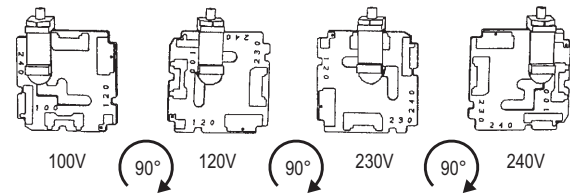

Figure 5. Voltage card selector orientation.
- Orient the selector card so that the desired input voltage is readable at the bottom, shown in Figure 5. Then